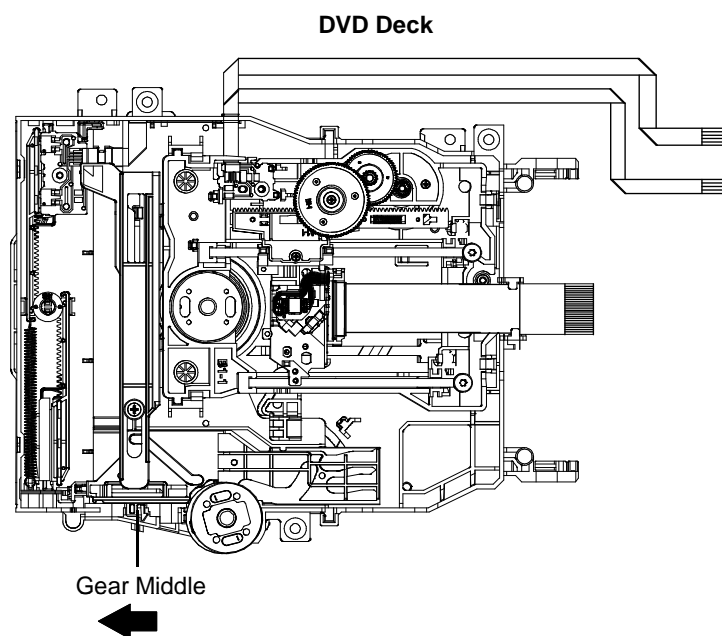

Fig. 1
2. Slide the Gear Middle toward the arrow direction by hand to release the lock. (Refer to Fig. 1)